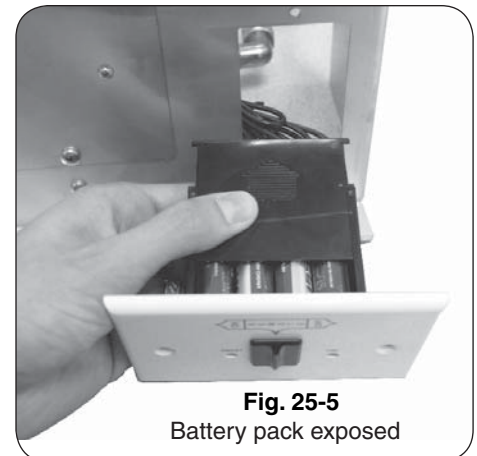

Fig. 25-5
To access the "AA" battery pack, unscrew and remove the two (2) retaining screws on the control system (Fig. 25-4). Remove the control system and then slide open the battery pack lid as shown in Fig. 25-5. Replace the old batteries with four (4) new "AA" batteries. Resecure the battery pack lid and return the control system into the control panel. Screw in the two (2) retaining screws.